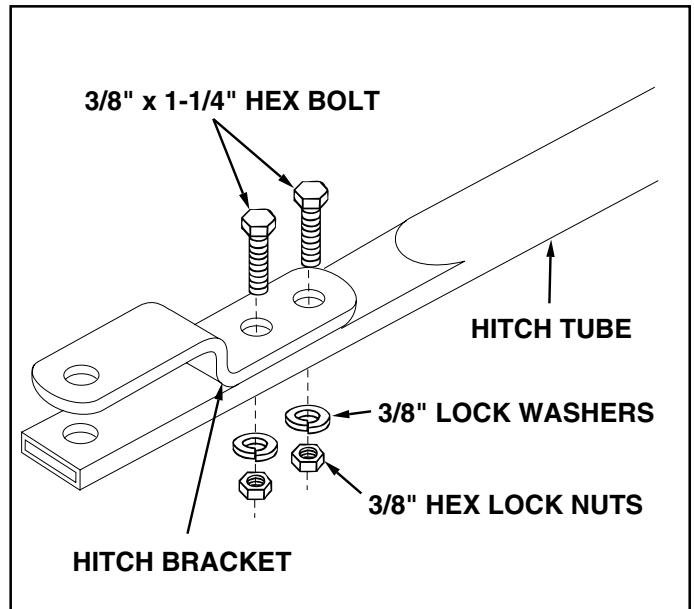

FIGURE 8
- Assemble the hitch bracket to the hitch tube. See figure 8. Secure with two 3/8" x 1-1/4" hex bolts, 3/8" lock washers and 3/8" lock nuts. See figure 8.